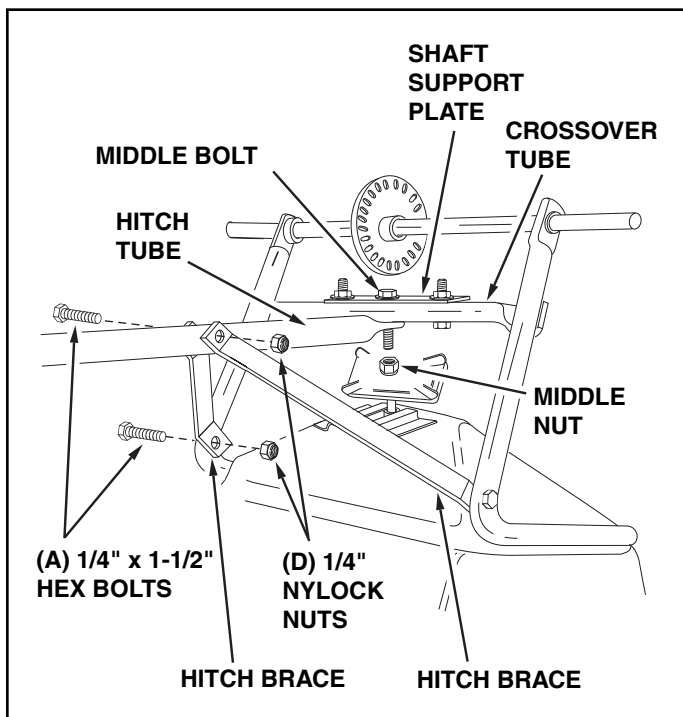

FIGURE 2
- Assemble the two hitch braces to the inside of the hopper frame, one on each side, using two 1/4" x 1-1/2" hex bolts (A) and two 1/4" nylock nuts (D). **DO NOT TIGHTEN YET.** See figure 2.
- Remove the nut from the middle bolt in the crossover tube and shaft support plate. Leave the bolt in place. See figure 2.
- Assemble the hitch tube onto the middle bolt and secure it with the same nut you removed. **DO NOT TIGHTEN YET.** See figure 2.
- Assemble the two hitch braces to the hitch tube using a 1/4" x 1-1/2" hex bolt (A) and a 1/4" nylock nut (D). **DO NOT TIGHTEN YET.** See figure 2.